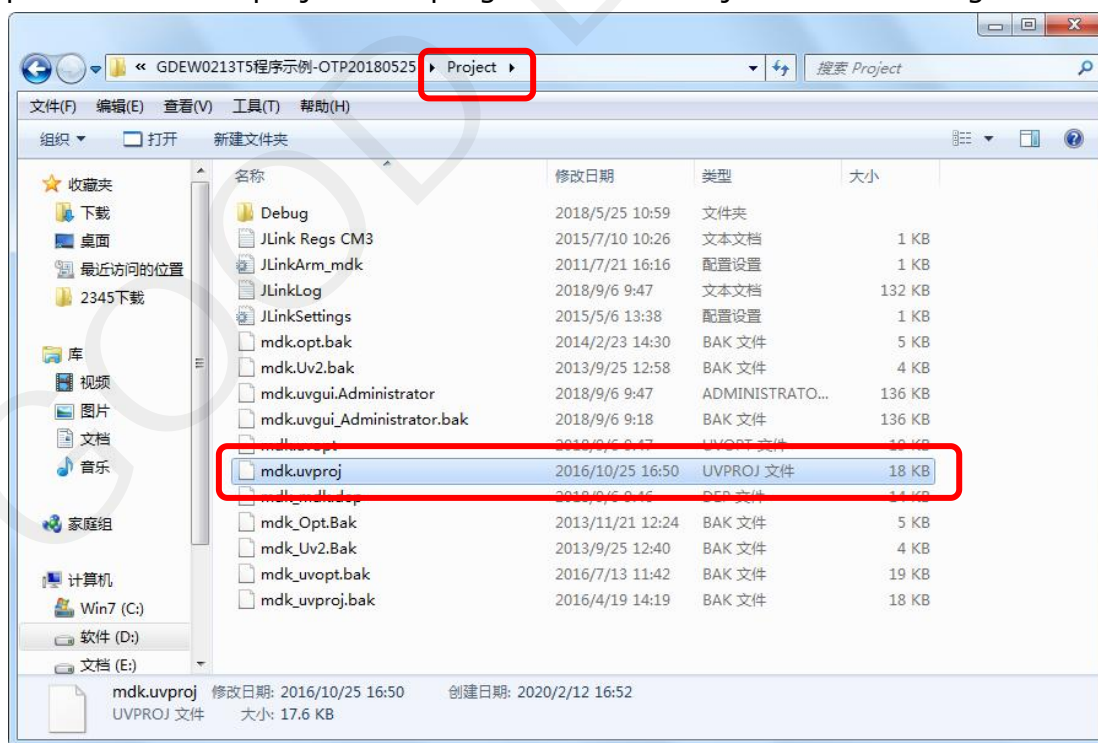

Figure 6 : Open the mdk.uvproj
- 2) Open the "mdk.uvproj" in the program folder "Project" shown in Figure 6 with Keil4.